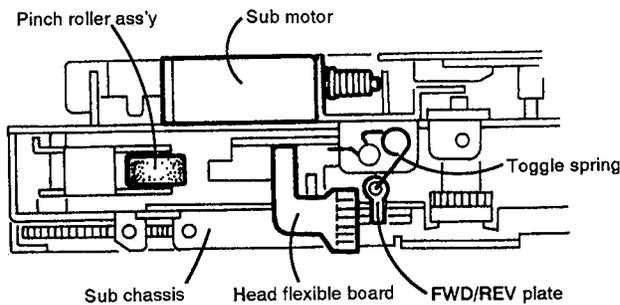

**Fig. 4-7**
**■ Load arm ass'y** (See Figs. 4-7 and 4-6)
- 1) Remove the C washer ② securing the load arm ass'y.
- 3) Turn the load arm ass'y in the rear direction, then disengage the load arm from the catch (K).
- 5) Remove two screws ③ securing the sub chassis.